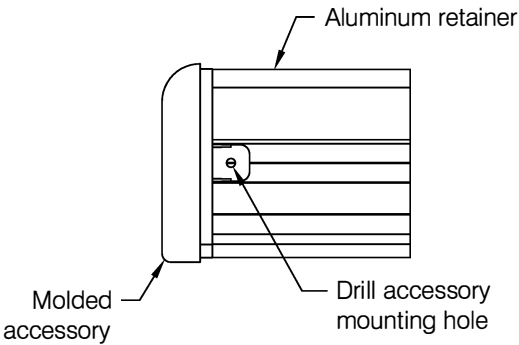

fig 3
- Drywall Installation:* Using the accessory as a template pre-drill clearance holes for mounting through to metal backer or stud or pre-drill pilot holes using #29 (.136") bit for #8 fastener or a #21 bit (.159") for #10 fastener for attaching accessories directly to aluminum, see **fig 3**.
- Masonry Installation:* Using the accessory as a template pre-drill clearance holes at mounting locations, see **fig 3**.